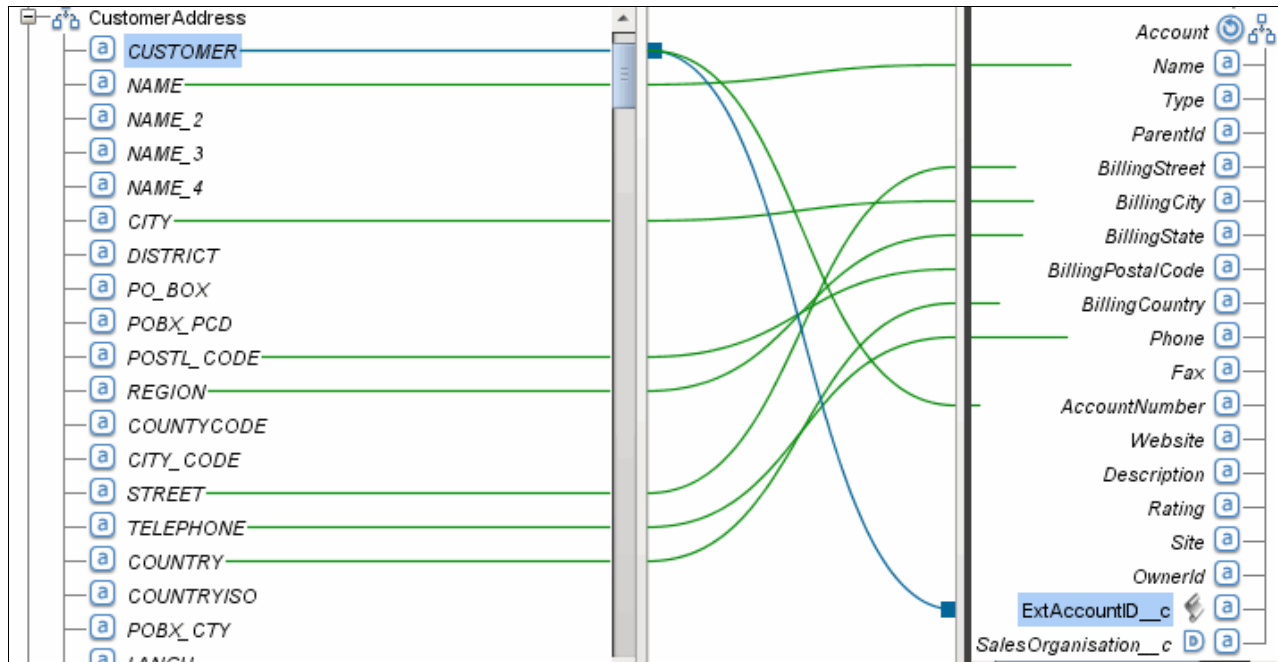

Figure 10-23 TIP wizard final SAP to Salesforce.com mapping
- Click **OK**, and then right-click the Concatenate function symbol (&), and select **Apply Function Graph**. The mapping now looks as shown in Figure 10-23.